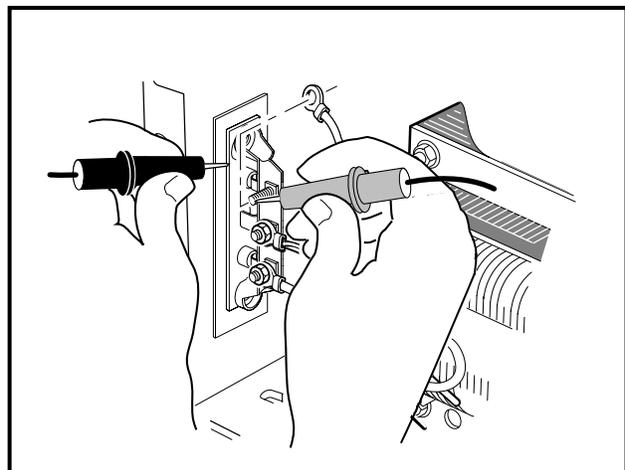

Figure 14-14 Diode Test, Reverse Probe Position
- Reverse tester leads and check each diode again and note reading (**Figure 14-14, Page 14-14**). A diode is designed to conduct current in one direction only. If a diode conducts current (shows continuity) in both directions, the entire heat sink assembly with diodes must be replaced. If a diode does not conduct current (does not show continuity) in either direction, the entire heat sink assembly must be replaced.